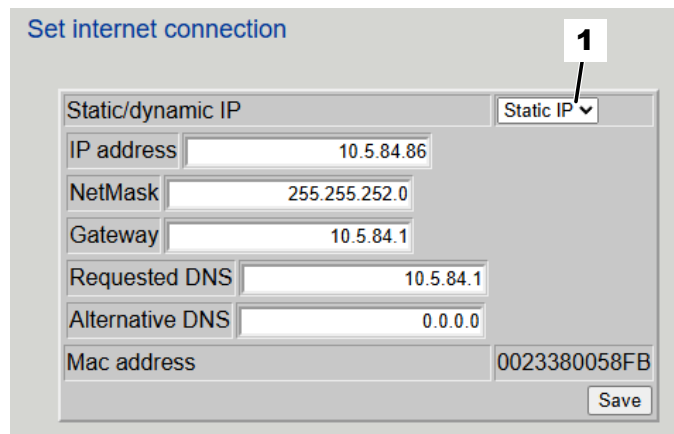

Fig. 39: Setting the static IP address
2. ▶ Select 'Static IP' from the drop-down list ( Fig. 39 /1), then set the following parameters: